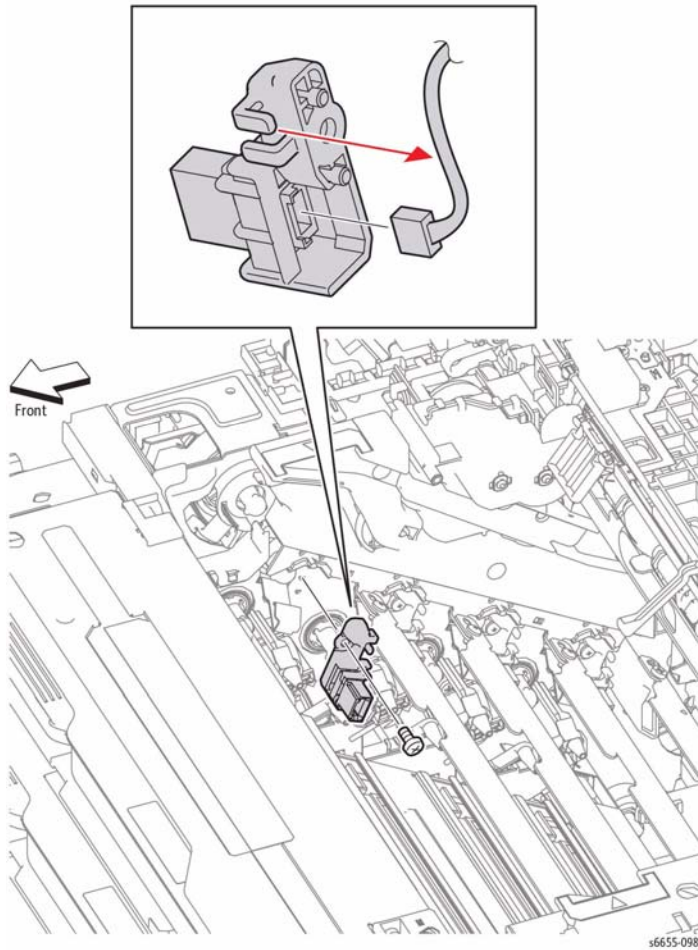

Figure 1 Remove the Transfer CRUM Connector Assembly
4. Refer to Figure 1 to locate and remove the screw (silver, 6 mm) that attaches the Transfer CRUM Connector Assembly.